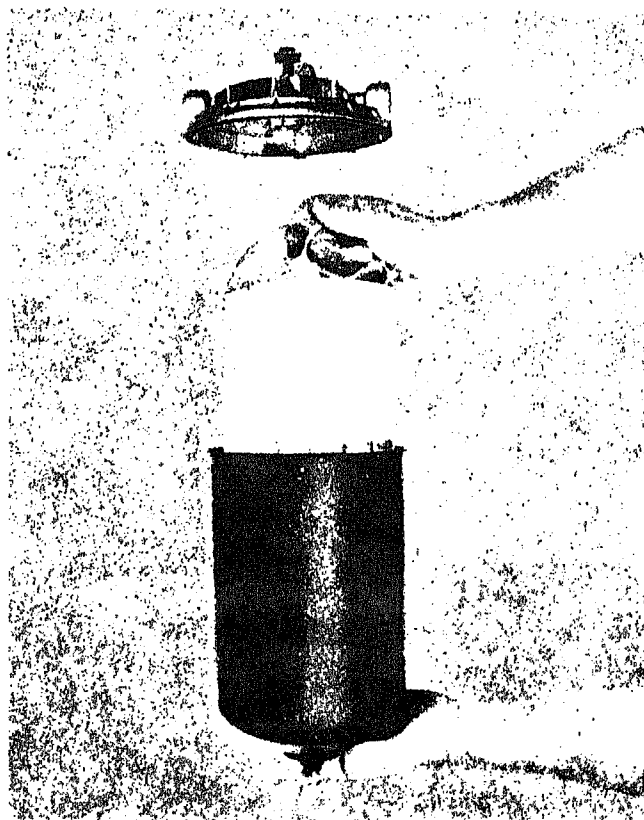

Fig. 502-5 Replaceable element fuel filter
2. Loosen nut at top of fuel filter. Take out dirty element clean filter case and install a new element. Fig. 502-5.